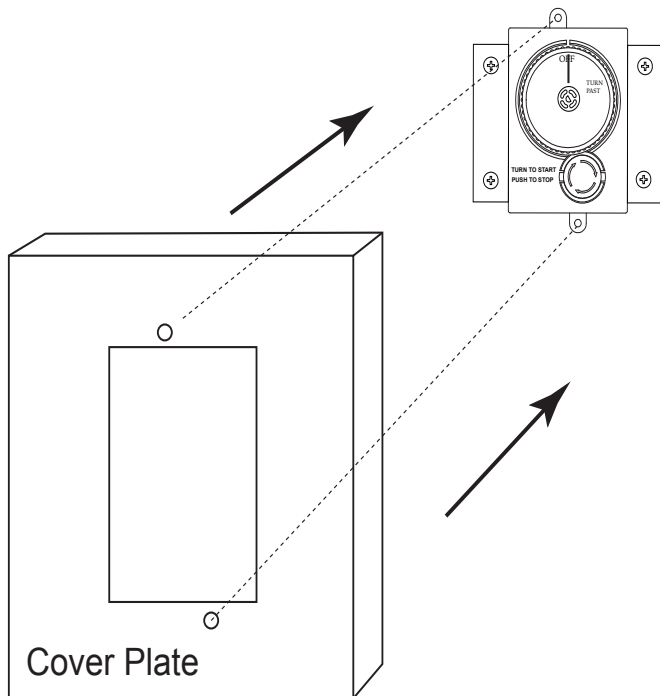

Fig. 5 Installing cover plate.
Step 6: Install the cover plate overtop of the ESTOP gas timer. Align the holes in the cover plate with the holes in the ESTOP gas timer (top and bottom) and install the two (2) mounting screws (#10-24x6.25 SS Phillips screws) to secure the cover plate as shown in Figs.5 and 6.